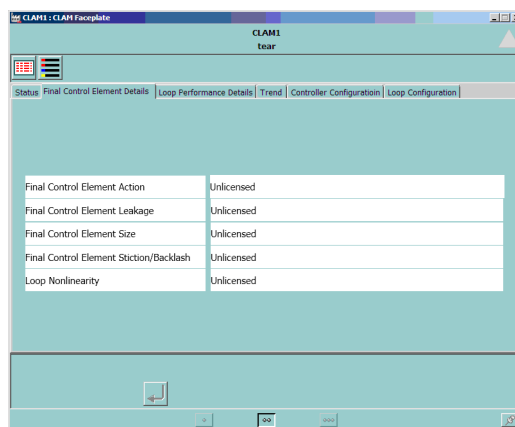

Figure 45. Final Control Element details (Unlicensed)
- **Final Control Element Details** (Figure 45): Used to view final control element diagnosis information and indices. Diagnosis information does not appear in the figure as it is under unlicensed mode.